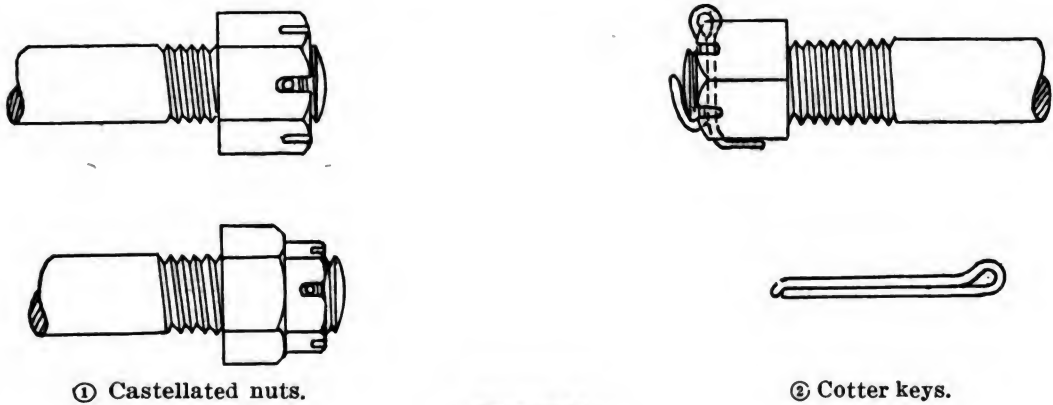

FIGURE 36.
**35. Castellated nuts.**—*a.* Castellated nuts are hexagon nuts with slots cut to permit the use of cotter keys for locking. Figure 36① shows two types of castellated nuts.
*b.* Cotter keys are formed from half-round wire and are made in various sizes. (See fig. 36②.)